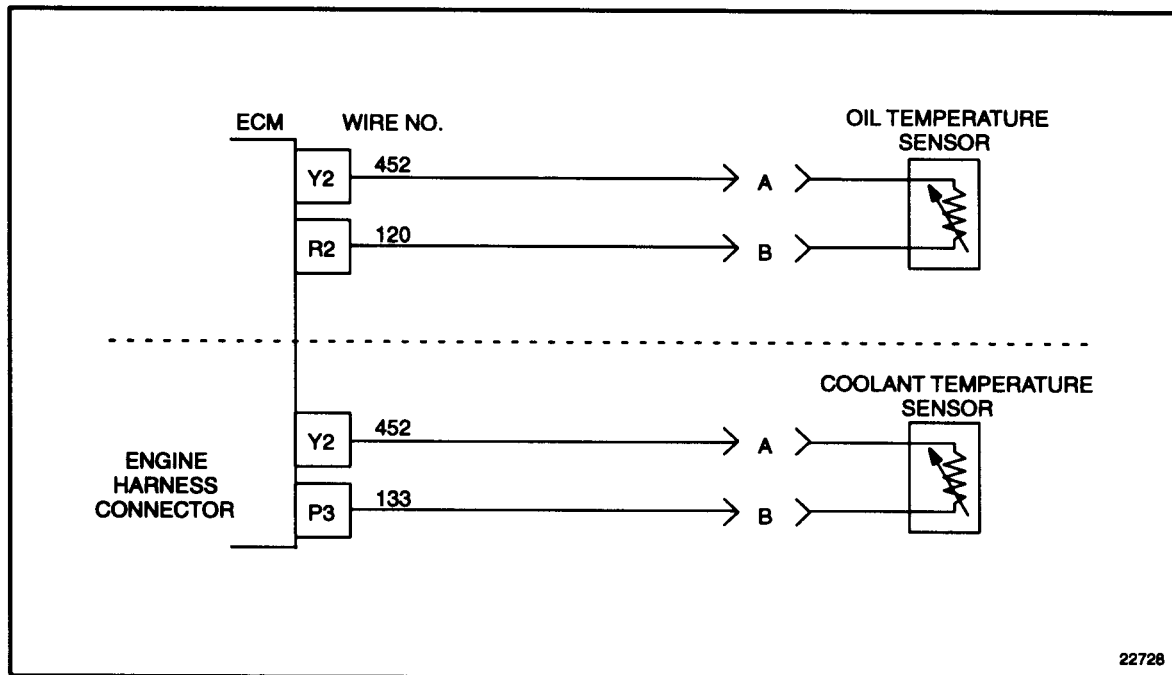

Figure 14-2 Temperature Sensor Circuits
2. Disconnect CTS and install a jumper between the CTS connector sockets A and B. See Figure 14-2.